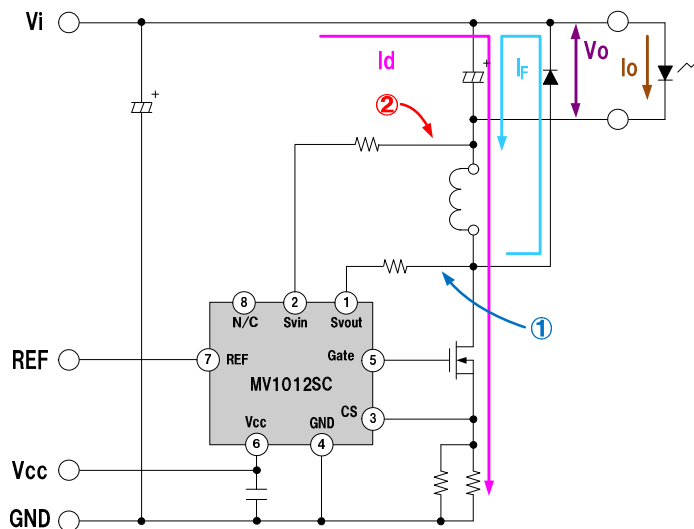
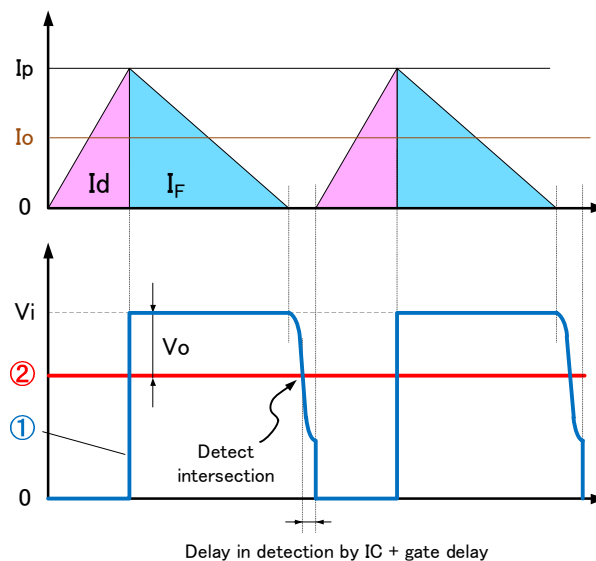

Figure 1 CRM step-down chopper circuit
Figure 2 MOSFET and diode current waveforms of the CRM step-down chopper and voltage waveforms on both ends of the choke
The MV1012SC is a critical conduction mode (CRM) step-down chopper control IC. Figure 1 shows the circuit configuration. Figure 2 shows the waveforms of currents flowing to the MOSFET and the diode, represented by  $I_D$  and  $I_F$ , respectively. In a general CRM step-down chopper circuit, the MOSFET is turned on after the  $I_F$  becomes zero, leaving little recovery current for the diode and lower losses and noises than a PWM circuit. Meanwhile, disadvantageously, the oscillation frequency changes dramatically as the output current (LED current) changes, resulting in poorer dimming characteristics and efficiency.
The MV1012SC detects  $I_D$ , converted to a voltage, with the current detection pin (CS pin). When it reaches the CS reference voltage, the MV1012SC turns the MOSFET off (peak current detection). The IC performs CRM control in this way: When the diode current  $I_F$  becomes zero, the  $S_{vout}$  voltage falls below the  $S_{vin}$  voltage, so the IC detects this state (zero current detection) and turns the MOSFET on. The voltages on both ends of the choke (① and ② in Figure 2) are divided with resistors and input to the  $S_{vin}$  pin and the  $S_{vout}$  pin to achieve CRM operations without auxiliary winding. Additionally, the off-time modulation prevents the frequency increasing during dimming and achieves constant high efficiency and dimming characteristics during deep dimming. (See Section 5 [Dimming characteristics] on page 19.)
Figure 3 shows an example of a starting operation in the Vcc → REF sequence, using the circuit configuration shown in Figure 1.